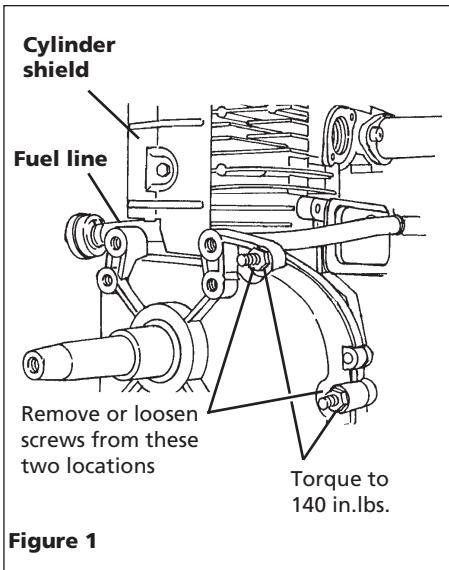

Figure 1
2. Disconnect fuel line at carburetor and if necessary, pull the line from behind the cylinder shield. Install fuel line insulator (when supplied) over fuel line and route line outside cylinder shield and reconnect to carburetor inlet, (See Figure 1).
NOTE: If a generator or pump is installed on engine, it may not be possible to remove the two (2) screws as described in step 3. Instead, loosen the screws as shown in Figure 1 and then proceed to step 5.
3. Remove and discard two (2) crankcase cover screws, (See Figure 1).
4. Install new studs and flat washers provided in kit. Upper stud (model Series 190000 only) is to be coated with non-hardening sealant such as Permatex 2° or equivalent. Torque studs to 140 in.lbs. (See Figure 1).